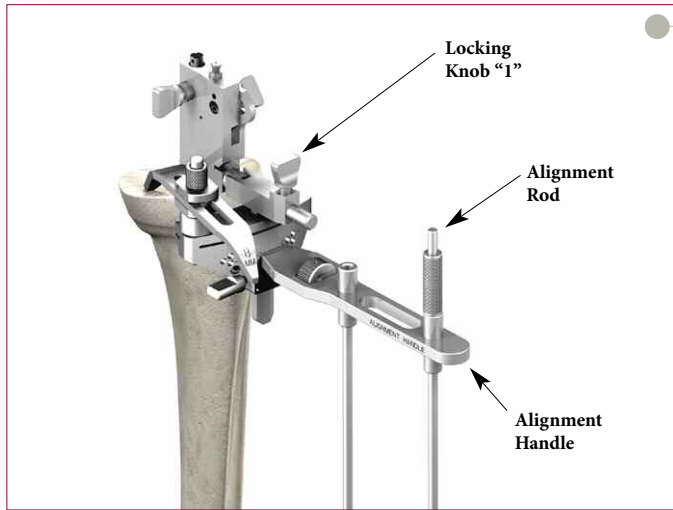

Figure 63
- If varus/valgus adjustment is needed, Locking Knob "1" is loosened. The mounting bar is pulled toward the surgeon, and the jig is rotated until proper varus/valgus orientation is achieved (Figure 63). Once the alignment rod is centered over the ankle, the Locking Knob is securely tightened.